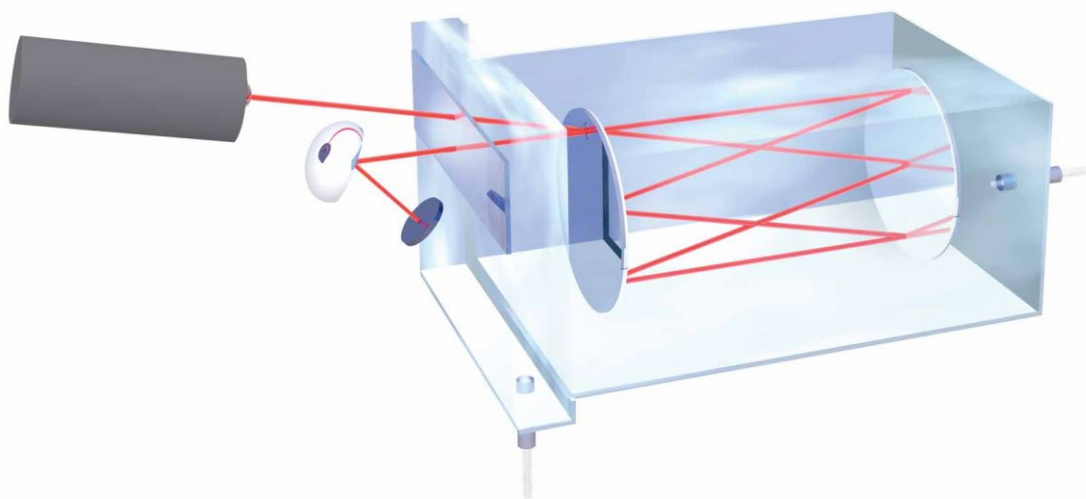

Figure 105: Herriott Cell Conceptual Drawing
The NanoTrace Moisture Analyzer uses infrared (IR) absorption as its detection method. IR absorption is a subset of the overall field of spectroscopy, which concerns analytical methods based on the interaction of light and matter. A conceptual drawing of the type of moisture cell used in the analyzer (called a Herriott cell for physicist Donald R Herriott) is shown in **Figure 105**. The cell includes a laser light source, an enclosed cavity through which the sample gas passes, a system of mirrors and a light sensor.